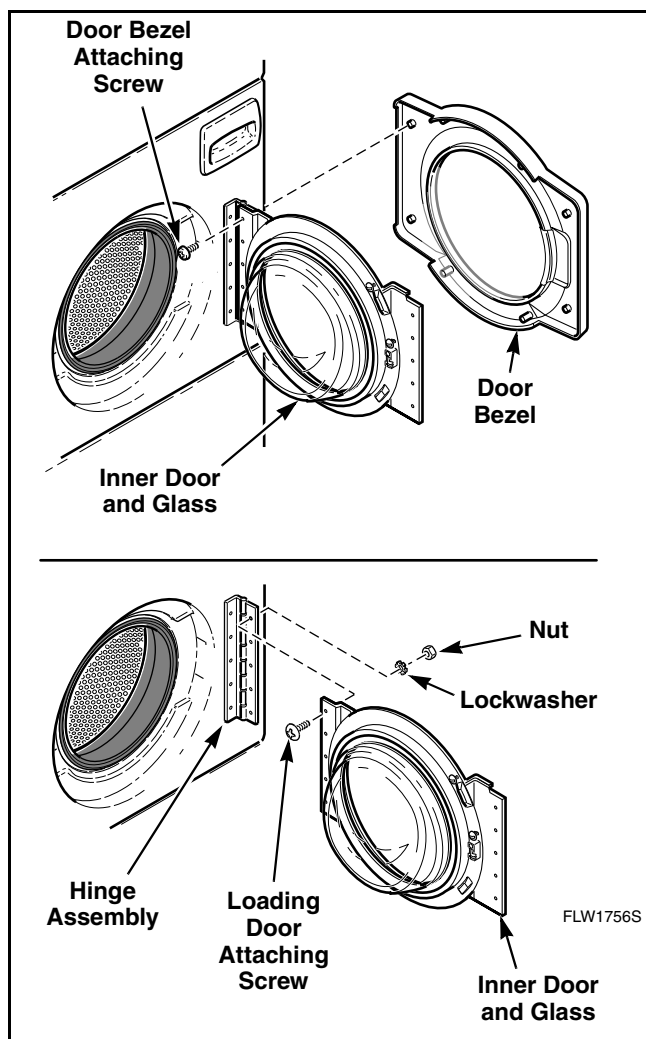

Figure 29
- Remove door bezel to gain access to nuts. Refer to *Figure 29*.
- The loading door can be adjusted up or down somewhat by loosening screws holding door to hinge, then raise or lower door before retightening screws. Refer to *Figure 29*.
- Remove door bezel. Refer to *Figure 29*.